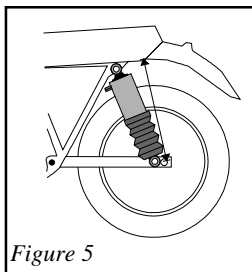

Figure 5
2. Ride height. With the motorcycle on the center stand (rear wheel off the ground). Measure the distance from the center of the rear axle to point vertical on the frame (see figure 5). Now take the bike off the centerstand and load the motorcycle with the rider, passenger, luggage, accessories and trailer (if any) and re-measure the same points. With the motorcycle loaded, this measurement should decrease